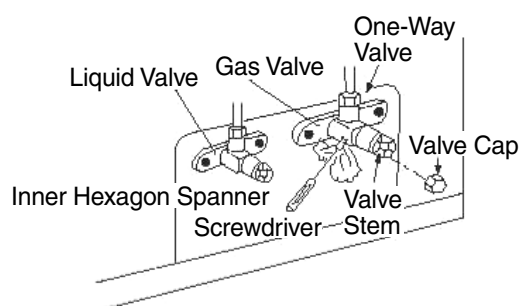

Fig.8.12
2. Use torque spanner to tighten the flared end nut until the spanner clatters (Fig.8.12).
8. Fully open the spools of the liquid valve and the gas valve (refer to Fig. 8.12).